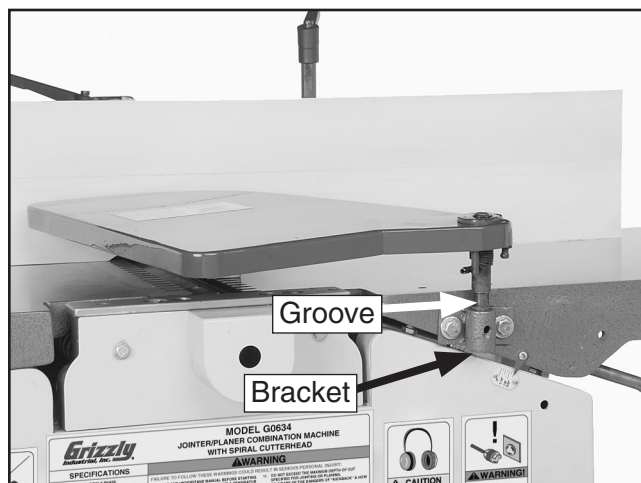

Figure 13. Installing cutterhead guard.
1. Remove the shaft lock knob and insert the cutterhead guard shaft into the bracket hole as shown in **Figure 13**.
4. Thread the lock knob into the bracket so the threads fit into the shaft groove (**Figure 13**), and secure the guard into place. Adjust the guard and lock knob as needed so the guard fully covers the cutterhead.